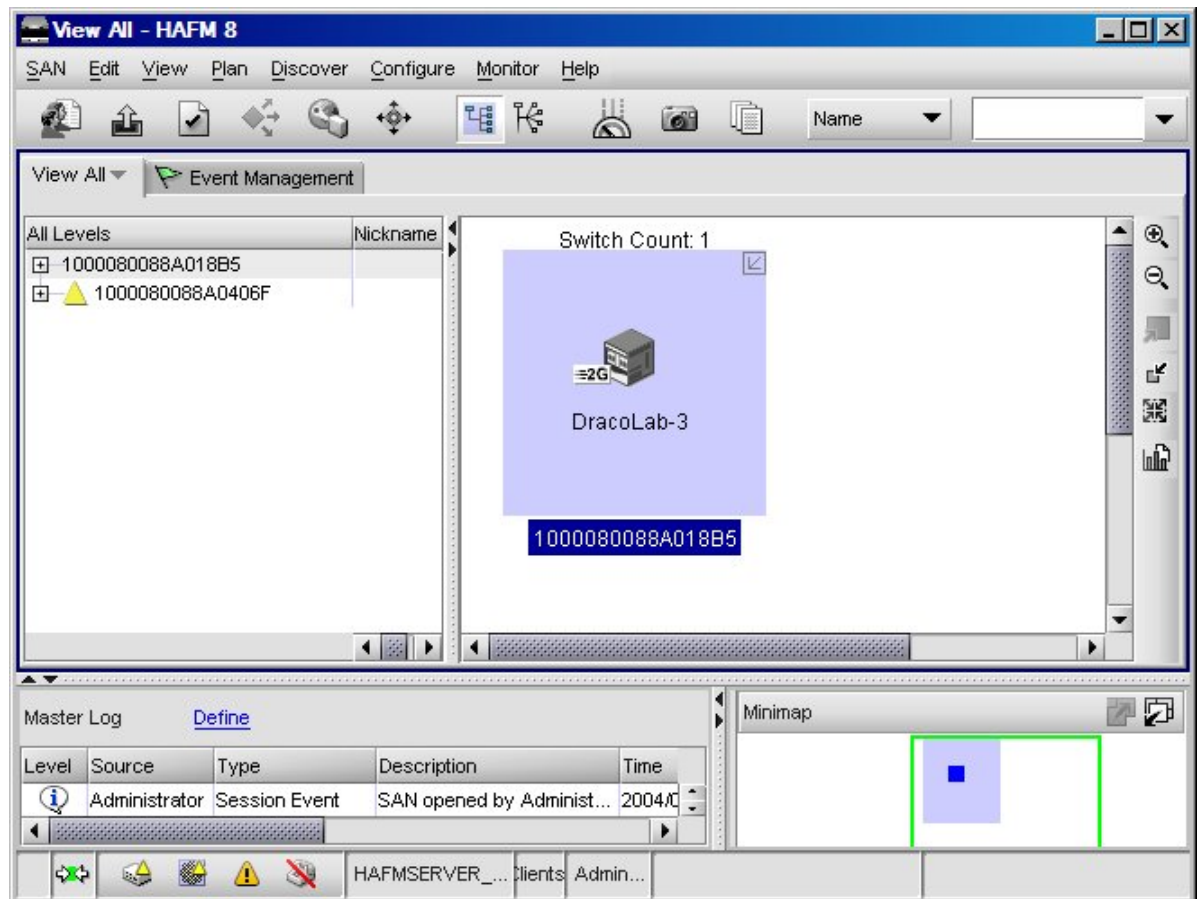

Figure 3.43. HAFM main window
1. Log in to HAFM (see Accessing the Appliance Desktop). The HAFM main window displays, as shown in Figure 3-43.